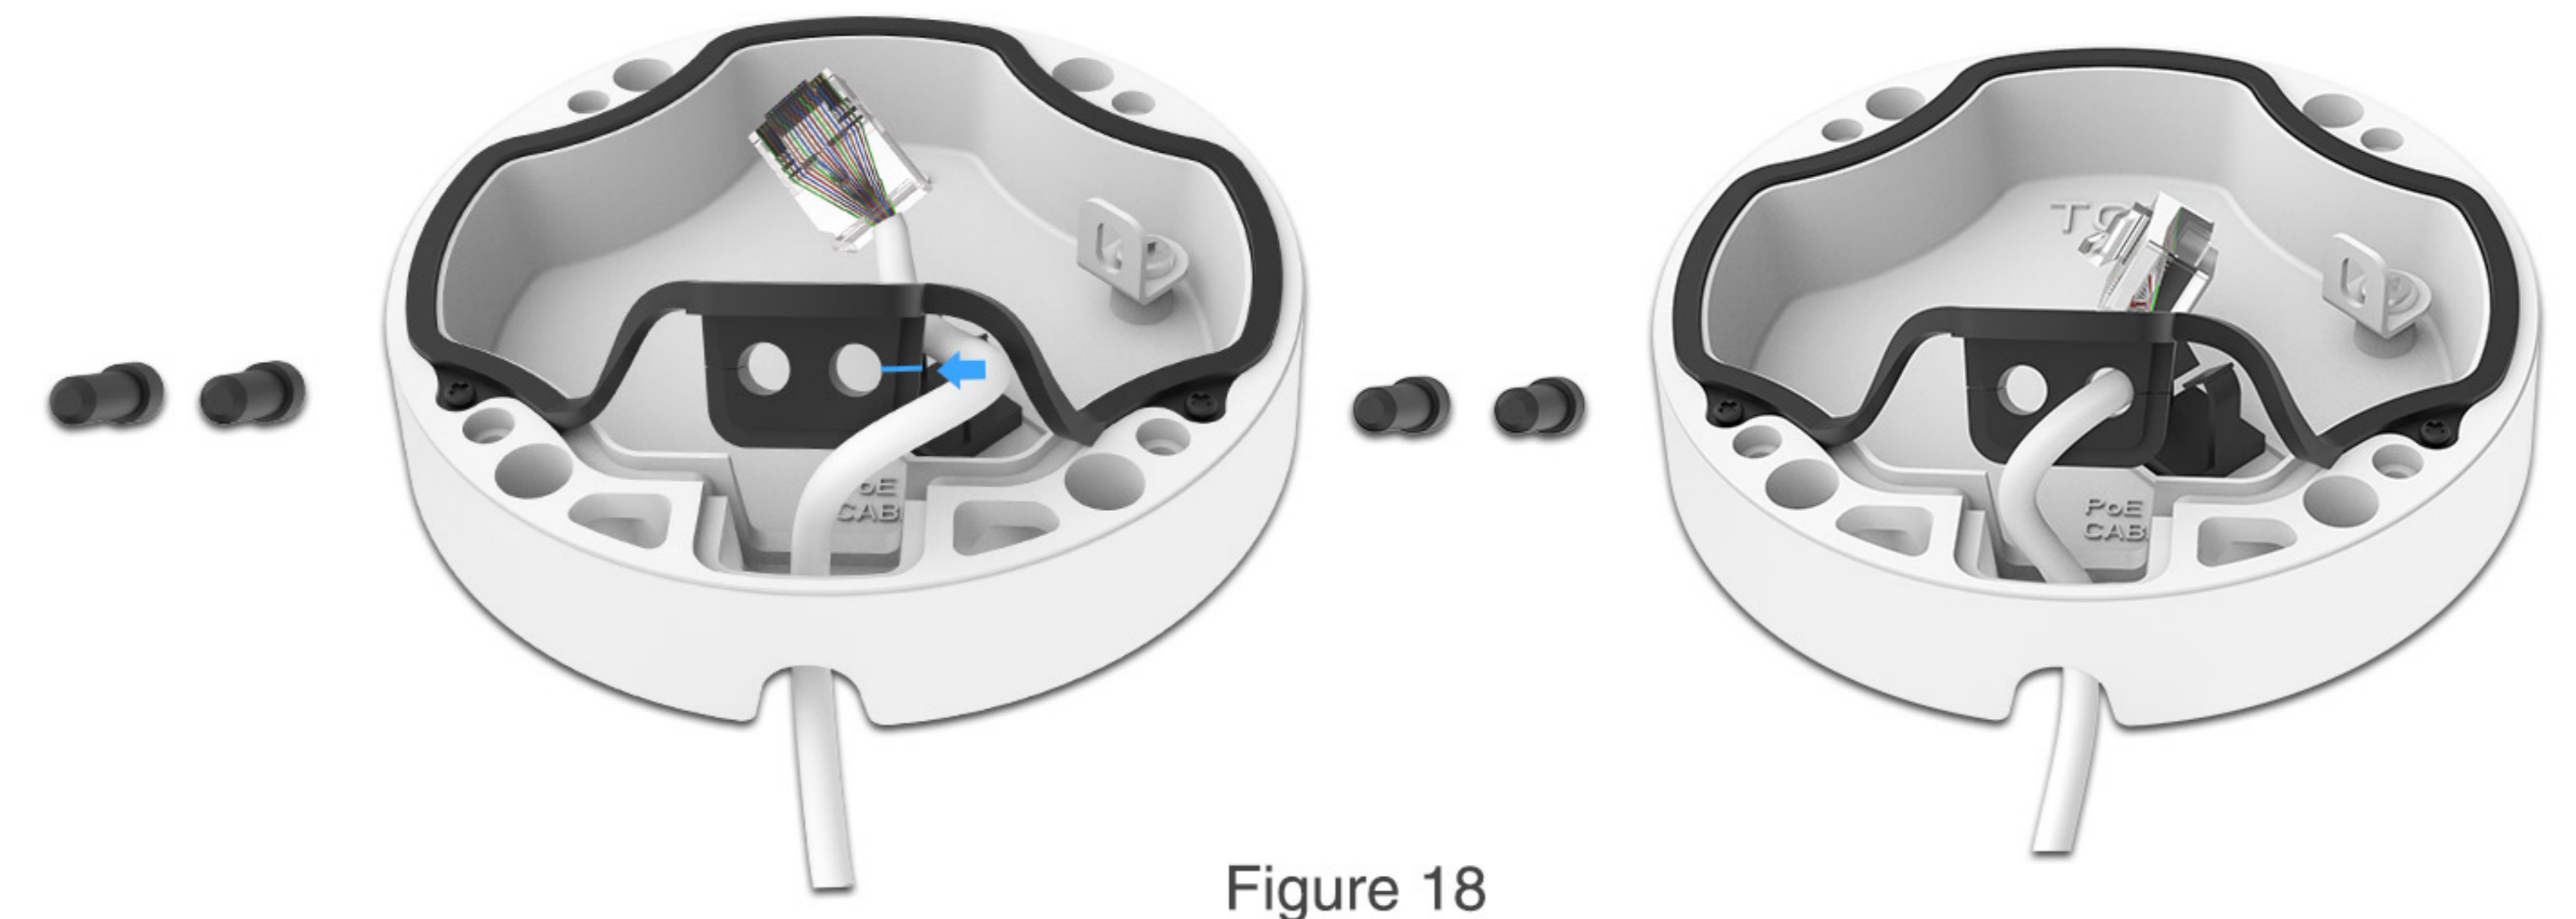

Figure 18
Step 2: Put the cables you need through the Base and Rubber Plug (For more convenient and easier setup, the cables can get through from the Side Opening of Rubber Plug, as shown in Figure 18). Fasten the Base to the sticker, then hang the Bullet via the hook on the Base;